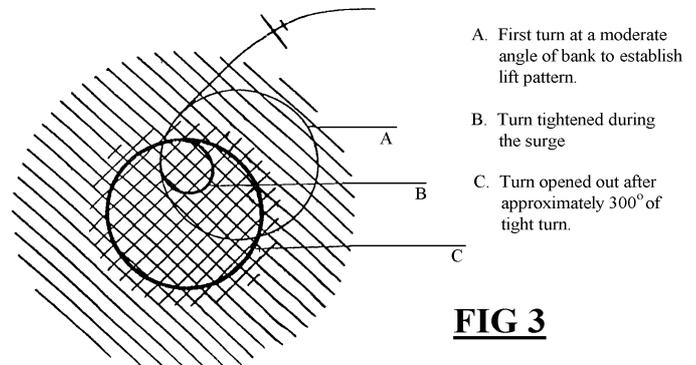

FIG 3
8. Repeat this until you are established in the core of the thermal, with the correct angle of bank. With some practice you may find that you can centre using this method in two turns. A further refinement is to tighten the turn upon feeling the surge, opening out the turn after about 300°, as in Fig 3. This does require more skill however, and it is likely to take longer to centre if done badly.